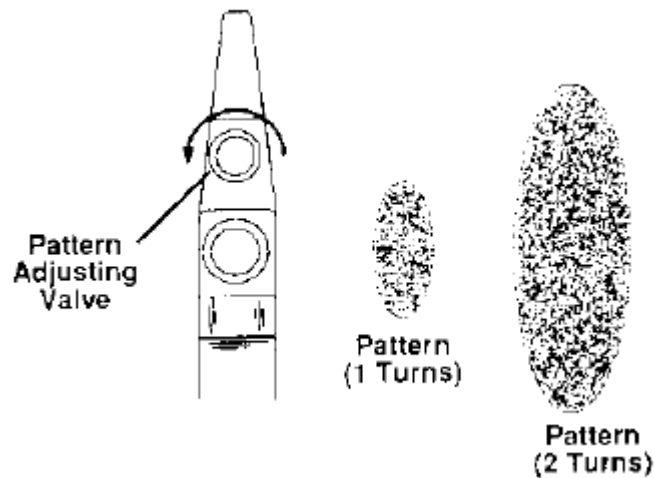

Figure 6 Fan Pattern
2. Opening the pattern adjusting valve (turn counter clockwise) produces an increasingly wider and flatter fan pattern (see Figure 6).